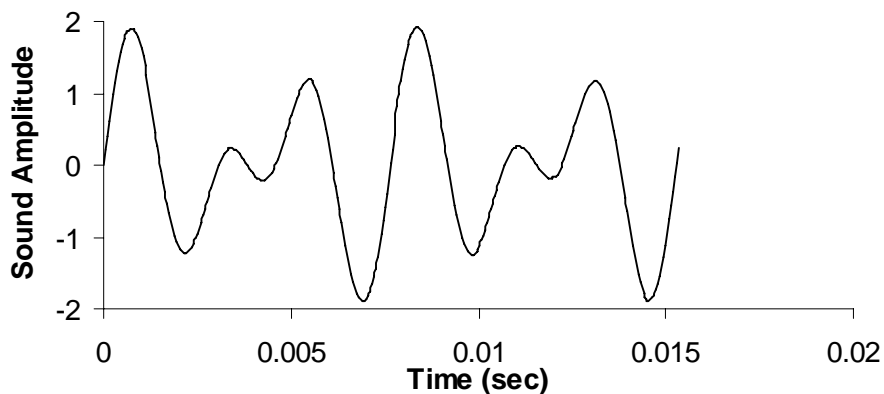

Figure 6.6. A simple chord mixing the notes C and G.
A chord is created by playing multiple notes simultaneously. When two piano keys are struck simultaneously both notes are created, and the sounds are mixed arithmetically. You can create the same effect by adding two waves together in software, before sending the wave to the DAC. You can produce this effect by creating two sine waves (OUTA OUTB) and adding two waves together in hardware. Figure 6.6 plots the mathematical addition of a 262 Hz (low C) and a 392 Hz sine wave (G), creating a simple chord.